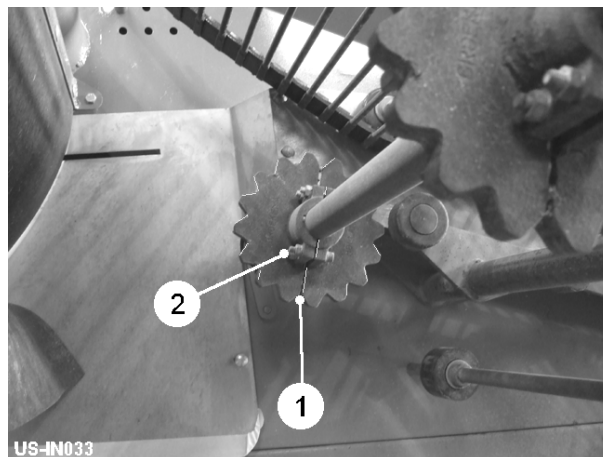

Fig 19
Split web drive sprockets (item 1, fig 19) are used which allow worn sprockets to be replaced, or alternative pitch sprockets to be fitted without having to dismantle the drive shaft. Most drive sprockets will have been split on initial installation. If not, they should be split with a hammer and sharp chisel. Before splitting a sprocket on or off the machine, remove the four fixing bolts (item 2, fig 19). Keep the split halves in the correct pairs to prevent mismatch when refitting.